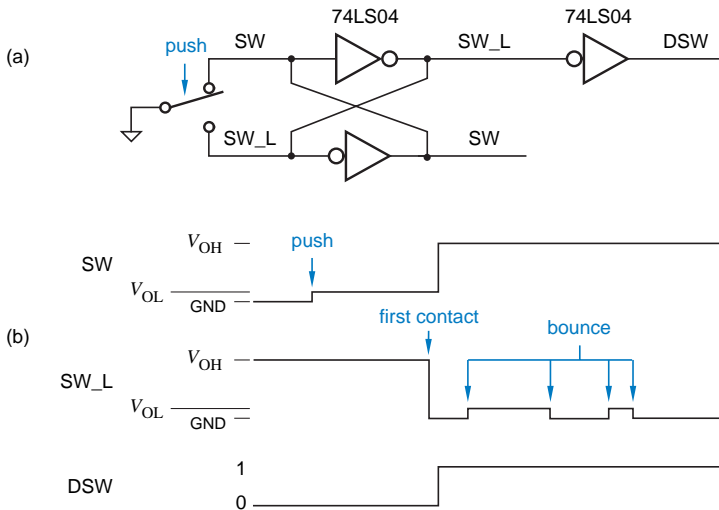

Figure 5: Switch input using a bistable for debouncing.
- Fig. 5 shows a switch debouncing application for bistable element